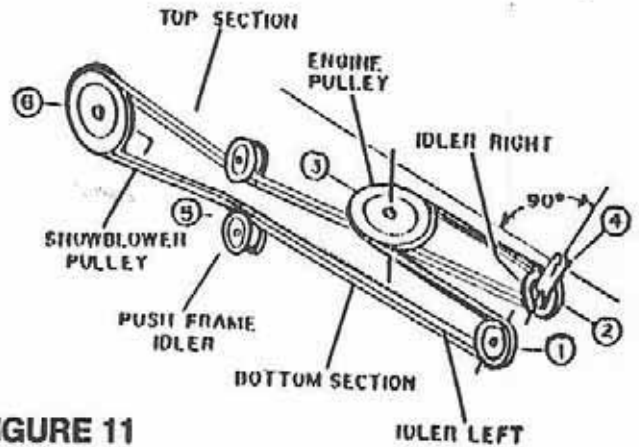

FIGURE 11
- f) Route the snowblower drive belt in the subframe inside left belt guide (fig. 1, item 12), around the "V" idler pulley (fig. 11, item 1), inside the right belt guide (fig. 1, item 14), around "V" idler pulley (fig. 11, item 2) and around the tractor drive pulley (fig. 11, item 3).
**NOTE:** Be careful the left V-belt section between the two pulleys (fig. 11, item 6 and 1) is not twisted.
- a) Belt Adjustment with Manual PTO clutch: When the clutch mechanism is in engaged position, the pulley lever (fig. 11 or 14, item 4) must be approximately 90° with the subframe. The spring should be lengthened between 3/4" to 7/8". If it is not like this, adjust the belt tension, using the left adjustable idler pulley (item 1). Disengage the clutch, loosen the middle bolt, slide the idler in the slot and retighten the bolt. Engage the manual PTO clutch and recheck to be sure the spring length is between 3/4" to 7/8". The lever pulley angle should be appx. 90° with subframe.